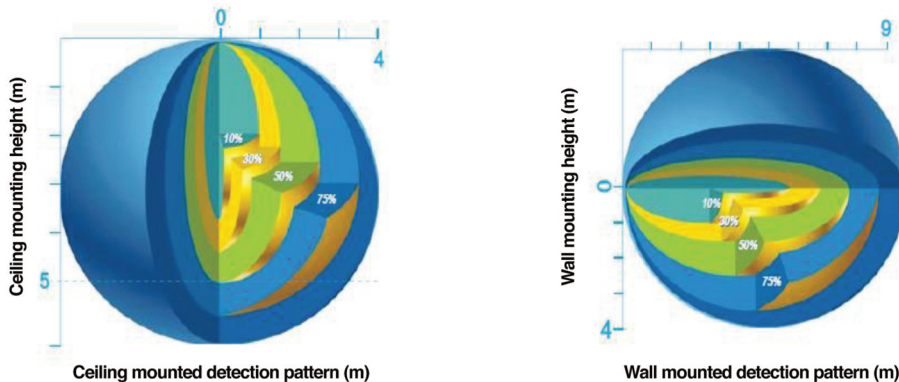

Fig. 4
4. Secure fixture onto surface mount plate by first hooking fixture onto ring. **(Fig. 4)**
4. **Note:** before screwing pipe onto fixture add one washer nut. Screw pendant onto fixture add washer nut and feed wires through pipe. **(Fig. 4)**
5. Secure pendant by tightening washer nut. **(Fig. 4)**